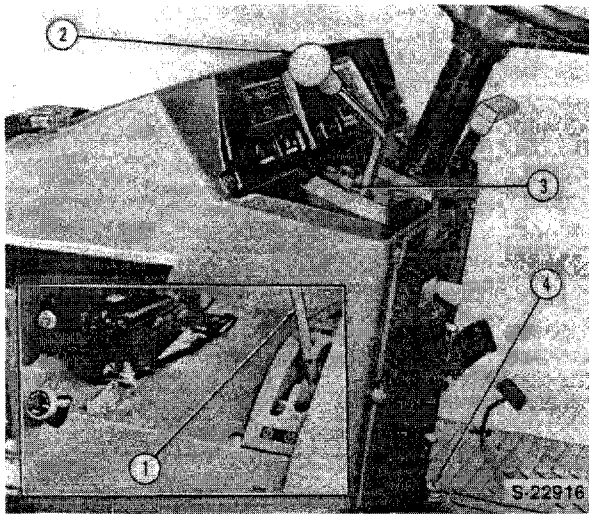

Figure 102
The main transmission lever (3), Figure 102, controls the three forward and one reverse speed in the main transmission compartment. The range selector lever (1), Figure 102, controls the selection of any of the four range speed gears located in the transmission rear compartment.
The oil level dipstick (4) is located on the transmission top cover, Figure 102.